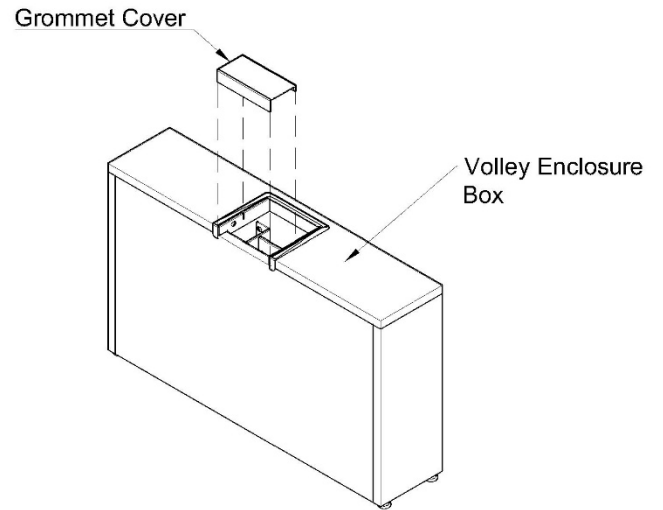

Figure 1
3. Remove the Grommet Cover as shown in Figure 1.